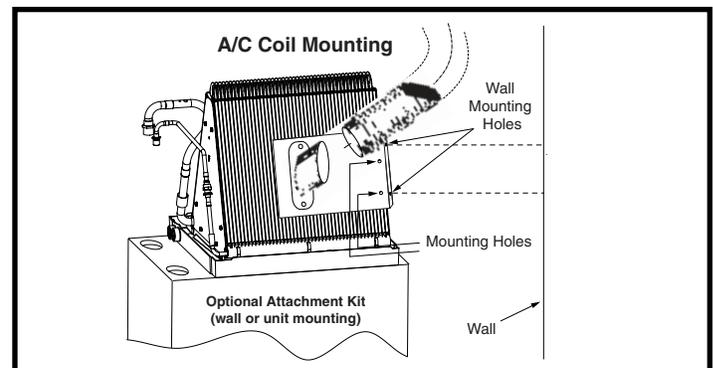

Figure 2. Downflow Electric Furnace with A/C
- **Downflow Electric Furnace** - The plastic inlet fitting may be mounted in the rear of the cabinet over the return air filter. When using an optional air conditioning coil, it may be mounted to the front or rear coil end-plate flange using the mounting holes provided. **NOTE:** An optional VentilAire™ attachment kit (P/N 919328) may be purchased to attach the plastic inlet fitting to the coil or wall in Heat/Cool and Heat only (no coil) applications. This bulk kit is supplied with 24 brackets and fasteners. The plastic inlet fitting snaps into the bracket opening without screws. See Figure 2.
- **Electric Furnace with Nordyne A/C coil** - Align and fasten the VentilAire™ attachment bracket with the holes of the coil end-plate flange. See Figure 2.
- **Electric Furnace with non-Nordyne A/C coil** - When using other brands of coils, the installer has the option to attach the bracket to the wall of the furnace cavity. Fastening must penetrate into a framing member or sheetrock anchors. See Figure 2.